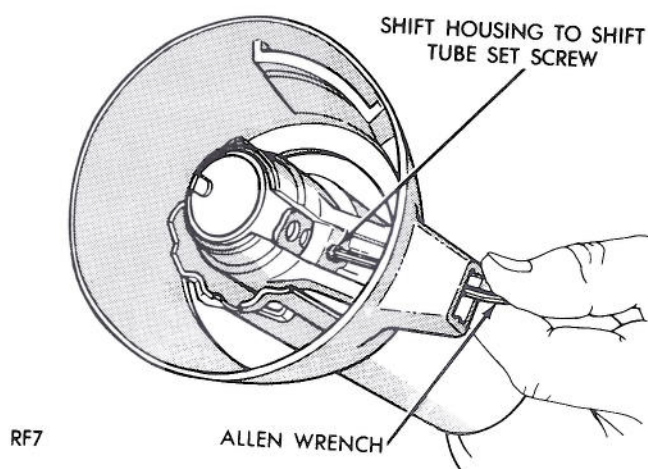

Fig. 14—Shift Tube Set Screw
Shift Tube (Fig. 14)
(1) To remove shift tube, loosen shift tube set screw in shift housing (Fig. 14). Remove shift tube through the lower end of the jacket.
(2) To install shift tube, install shift tube into shift housing and tighten shift tube set screw (Fig. 14).